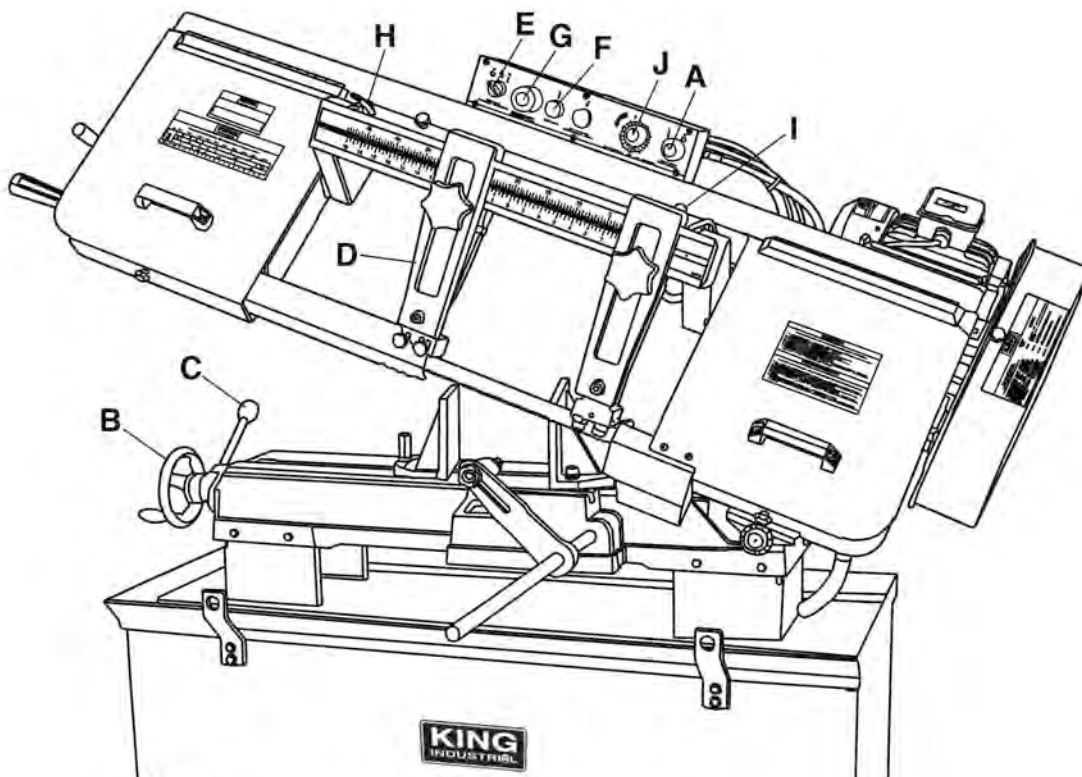

FIGURE 26
3. Raise the saw frame and close the feed on/off knob (A) Fig.26.
4. Place workpiece between the vise jaws. Adjust the stock for the desired length of cut, tighten the vise handwheel (B) and lower the cam lock lever (C) to firmly secure workpiece.
5. Make sure the blade guide control arm (D) is adjusted as close as possible to the workpiece.
6. Turn the coolant selector (E) to the "On" position, then turn machine on by pressing the "On" button (F). Note: If the "Emergency stop/off" button (G) is pressed, it needs to be twisted until it pops out or the bandsaw will not start. Just in case, keep your finger near the "Emergency stop/off" button at all times during the operation. The bandsaw should run smoothly with little or no vibration.
8. Turn the feed rate control knob (J) counterclockwise until the saw blade begins to lower, see the feed rate guideline section below as reference.